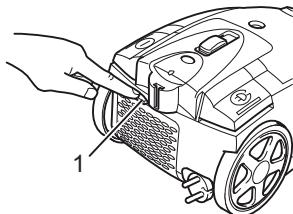

Fig. 27
2. Open the hygienic exhaust filter cover (Fig. 27/1). To do this, press the release button (Fig. 27/2) down and pull the hygienic exhaust filter cover back and out.